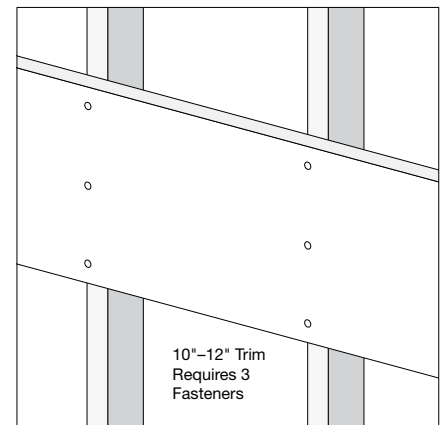

Fig. 6
- 10" and 12" Klear Trimboards require three fasteners evenly spaced across the face of the board and fastened to 1-1/2" thick framing no more than 16" on-center (Fig. 6).